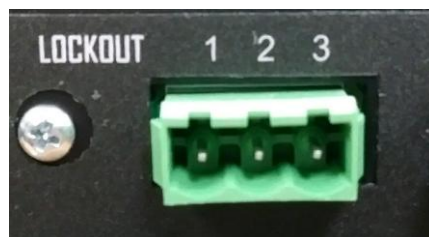

Figure 8-1: Charger Lockout Relay Terminals - 1=NC, 2=COM, 3=NO
The charger lockout relay has normally closed (NC), common (COM) and normally open (NO) dry contacts. Connection to the relay is available through the green connector located on the charger. Please refer to Figure 8-1 to identify the lockout relays terminals.